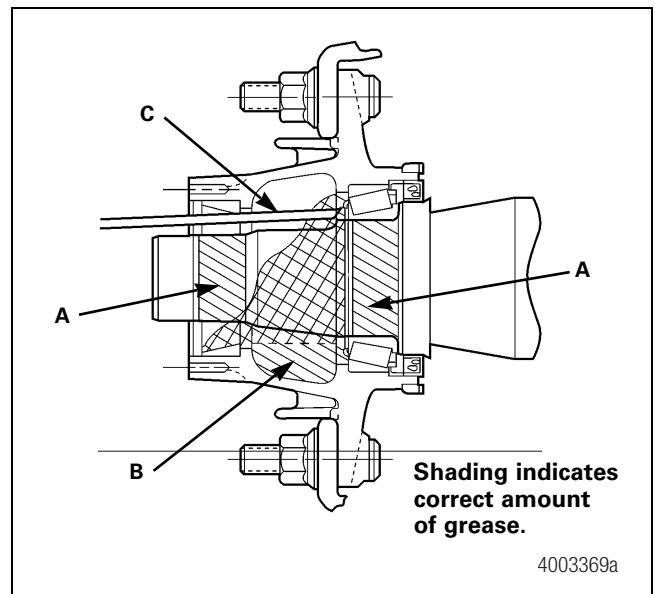

Figure 13.7
2. Apply a light coat of synthetic grease to the spindle bearing journals. Refer to "A" in Figure 13.7.
4. Fill the hub cavity with the approved grease to the outer cup's smallest diameter. Refer to "B" in Figure 13.7.
5. At the top of the spindle and as far back as possible, pump additional synthetic grease until it appears that the grease will run out. Install the outer bearing cone quickly. Refer to "C" in Figure 13.7.
6. The hub cavity will be filled approximately 1/3 full with grease, from the four to the eight o'clock positions. This will involve installation of approximately 1.5 pounds of grease. However, different hub designs may require that either more or less grease be installed. Figure 13.7.